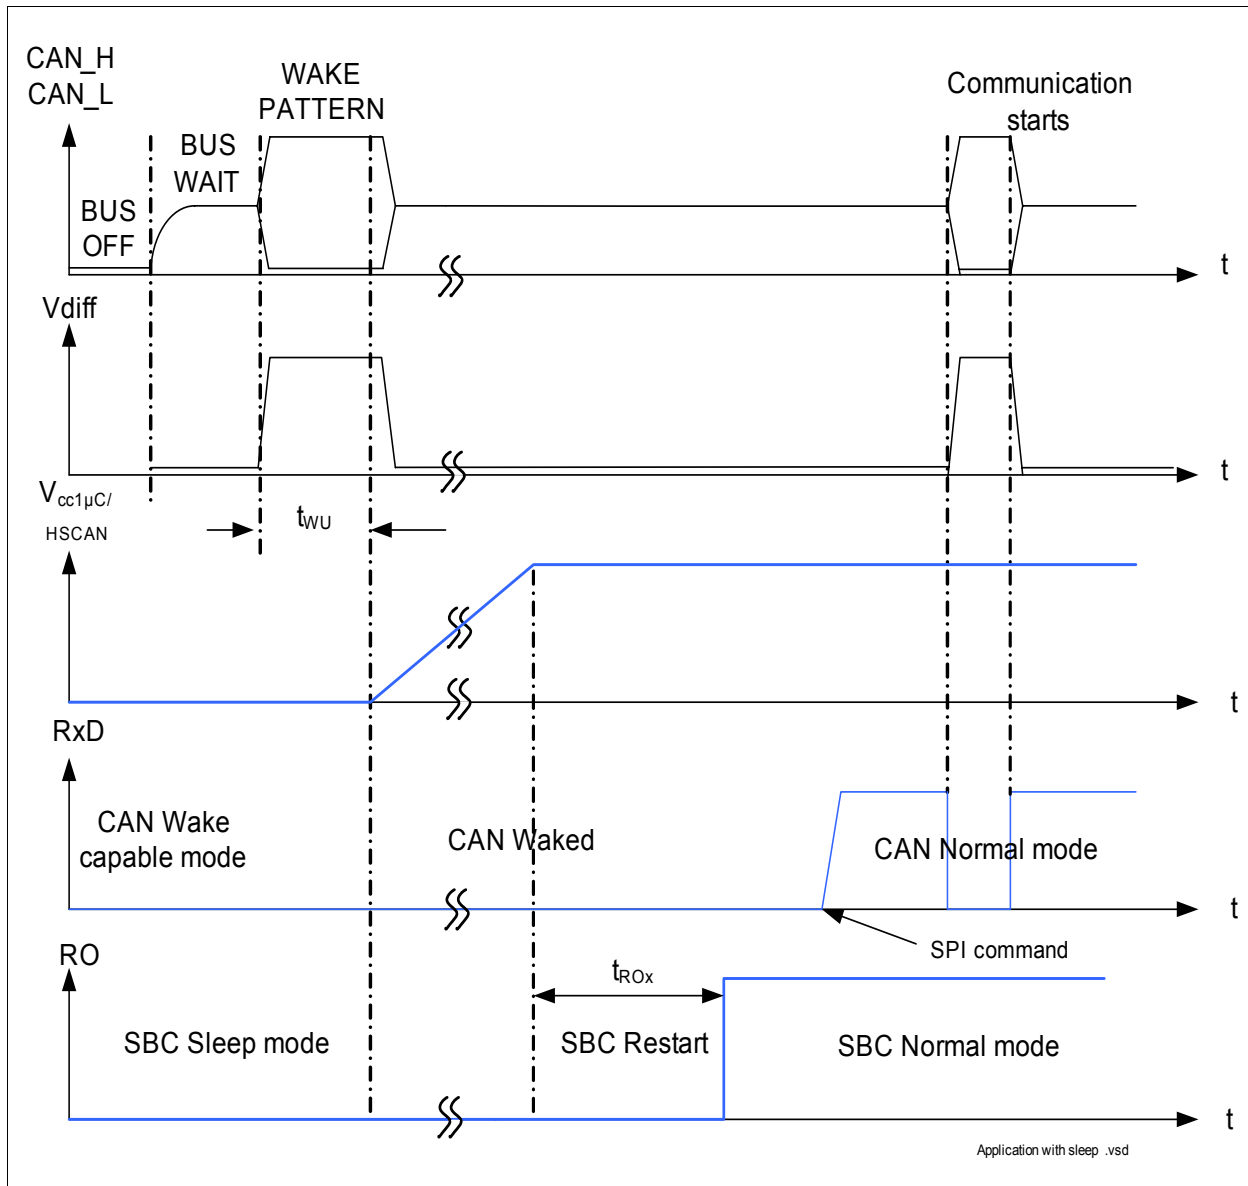

Figure 13 Timing during Transition from Sleep to Normal Mode
Refer to Figure 13 for a description of the matching of the transceiver modes with the SBC mode.
Wake-up is possible via a CAN message (filtering time $t > t_{WU}$), it automatically transfers the SBC into the SBC Restart Mode and from there to Normal Mode the RxD pins in set to LOW, see Figure 13. The microcontroller is able to detect the low signal on RxD and to read the wake source out of the “Wake Register Interrupt” register (000) via SPI. No Interrupt is generated when coming out of Sleep Mode.
In SBC Sleep Mode, a wake-up on the CAN cell will set the SBC to Restart Mode automatically if the CAN Wake Capable Mode of the SBC is selected via SPI. **Figure 13** shows the typical timing.